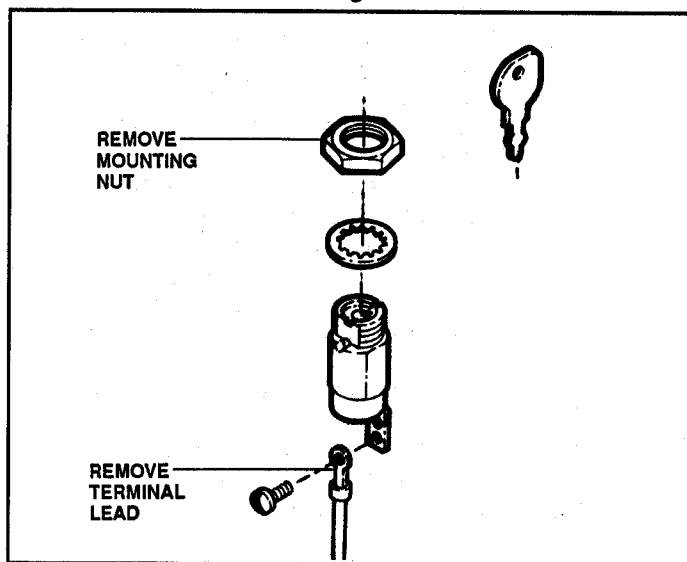

FIGURE 6.8
2. Remove Key Switch mounting nut and remove Key Switch. Replace in reverse order. See Figure 6.8.